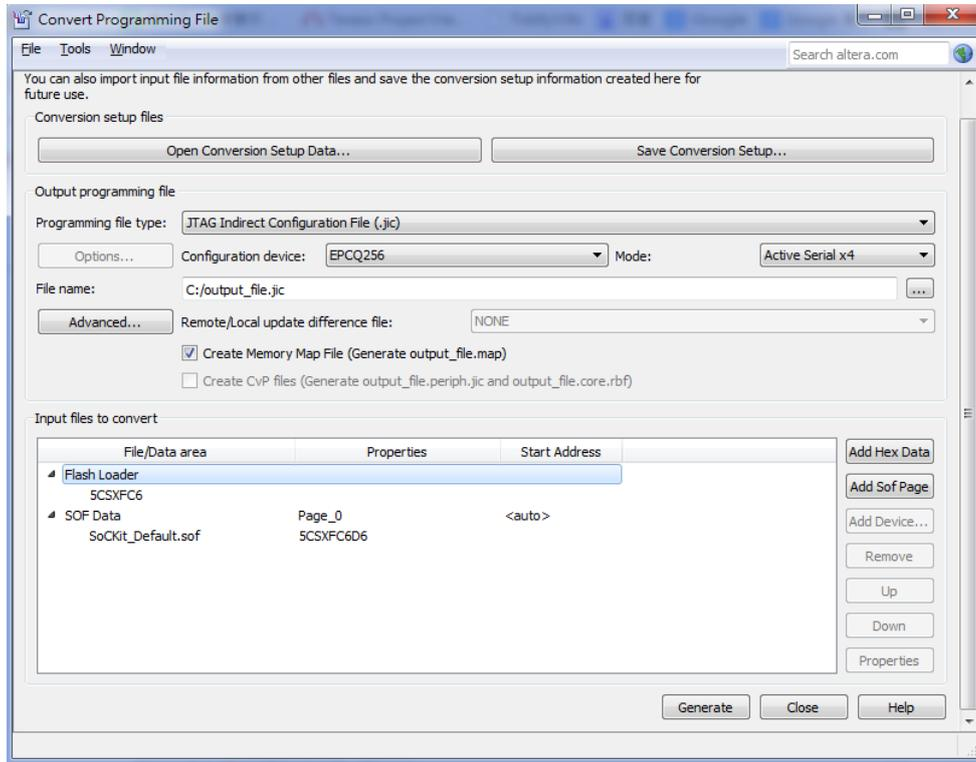

Figure 6-5. Convert Programming Files Page
13. Click OK. The **Convert Programming Files** page displays. See Figure 6-5.